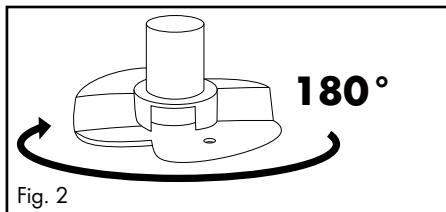
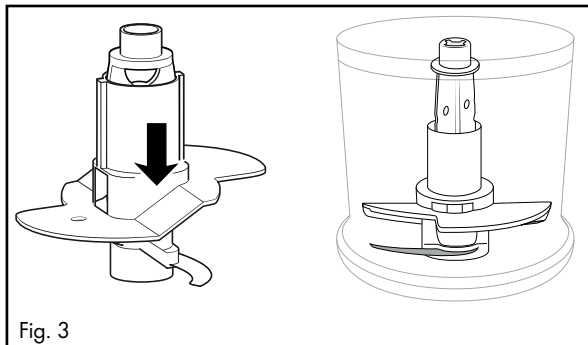

Fig. 2
Fig. 3
- For 200 ml of cream, turn the whisk attachment **10** horizontally by 180° (fig. 2), so that it is in contact with only one blade **7** and clicks into place (fig. 3). It then churns higher through the cream.